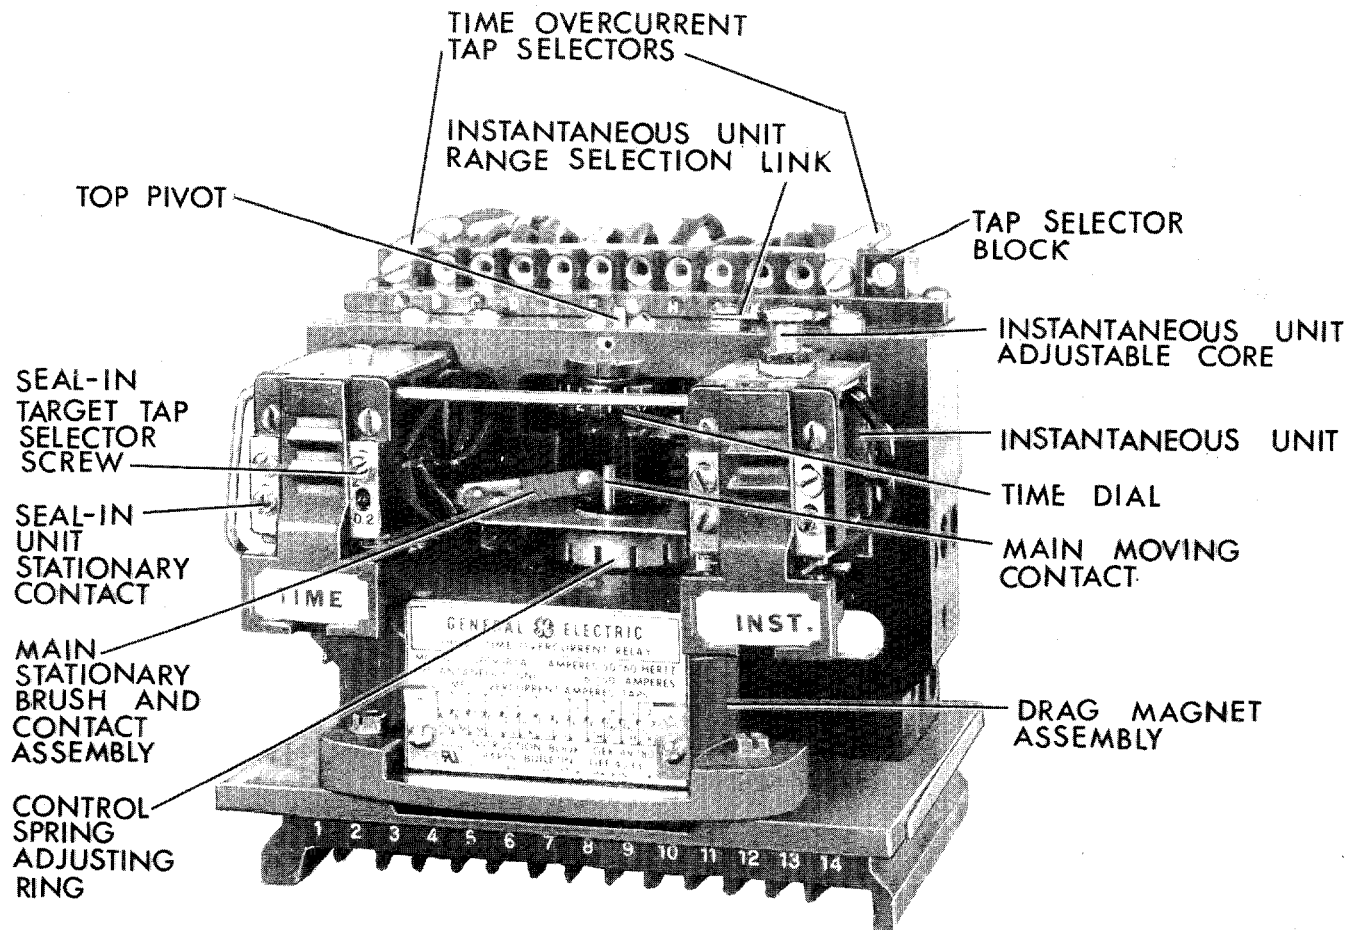

FIG. 1 (8043006) TYPE IFC95B RELAY, REMOVED FROM CASE, FRONT VIEW
1. Select the desired range by setting the link in the proper position. (See Figure 1 and the Internal Connections Diagram.) Whenever possible always select the higher range since it has higher continuous rating.
However, it would be preferable to adjust the operating time as near as possible to 0.525 seconds for 60 Hz relays and 0.595 seconds for 50 Hz relays. The drag magnet assembly should be approximately in the middle of its travel. The drag magnet assembly is adjusted by loosening the two screws securing it to the support structure. See Figure 1. Moving the drag magnet towards the disk and shaft decreases the operating time and moving the drag magnet away from the disk and shaft increases the operating time. The screws securing the drag magnet assembly to the support structure must be tight before proceeding with other time checks.